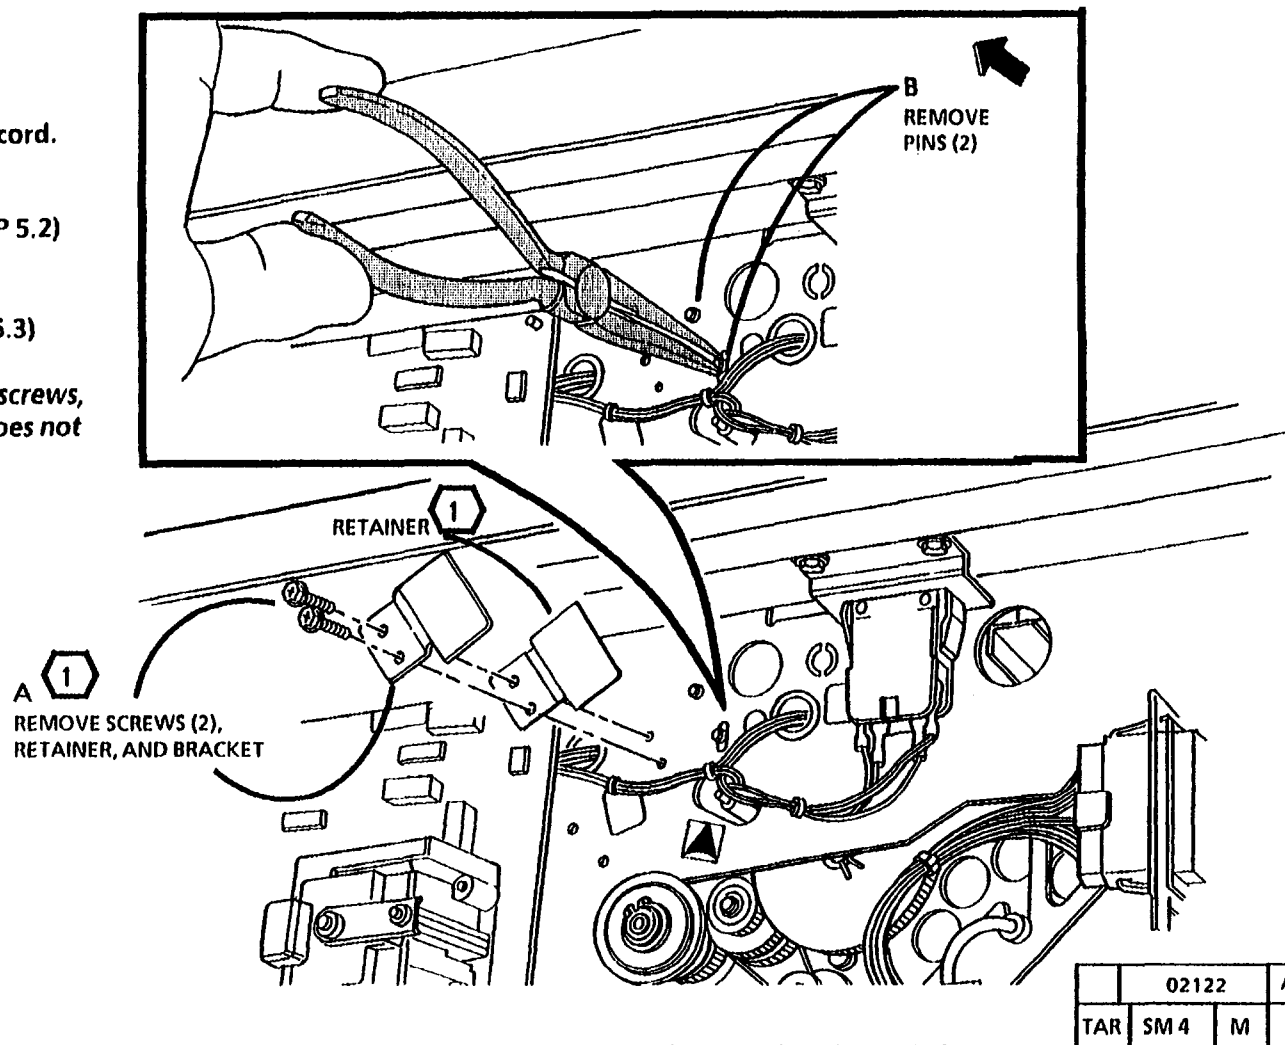

Figure 1. Remove the retaining clip and pins
3. (Figure 1): Remove the retaining clip and pins.